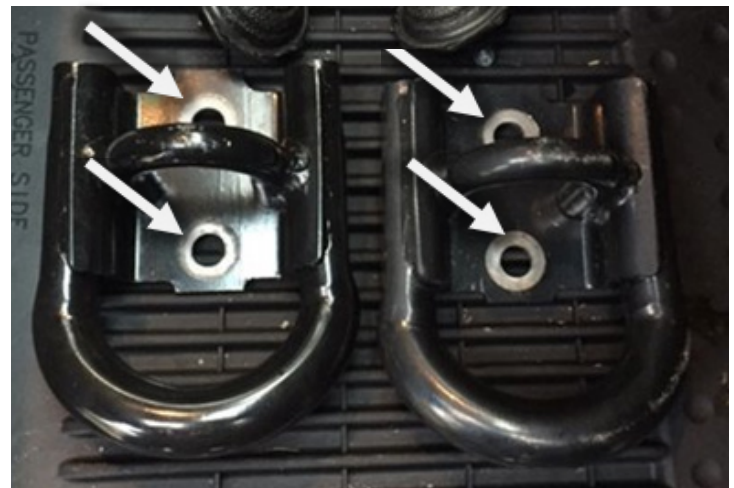

Figure 3
4. Using a 17mm socket wrench, remove the four (4) OEM bolts securing the tow hooks to the bottom of the frame rail. (Figure 3)